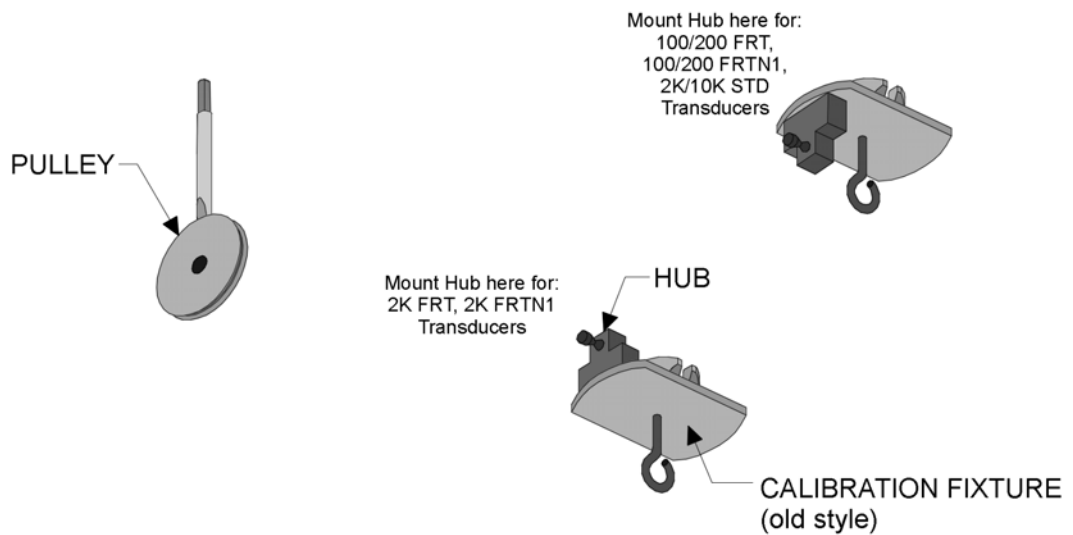

Figure 5-1. ARES Calibration Tools
5. Determine which calibration tool you have based upon Figure 5-1. Depending upon your tool, and transducer, mount the pulley wheel, or hub, appropriately.